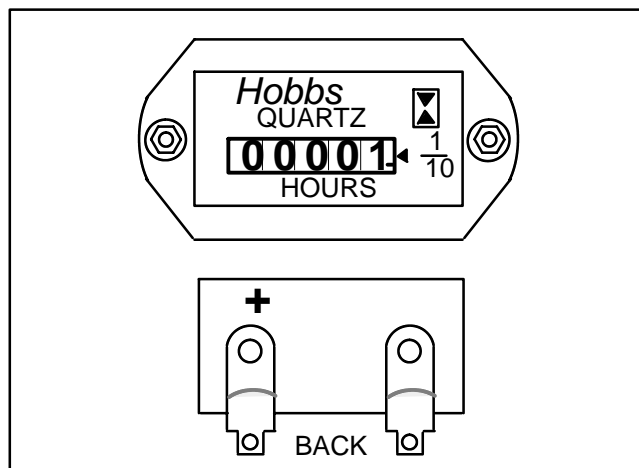

Figure 42
3. Connect the positive (+) terminal of a 12 VDC source to the positive (+) terminal of the hour meter (Fig. 42).